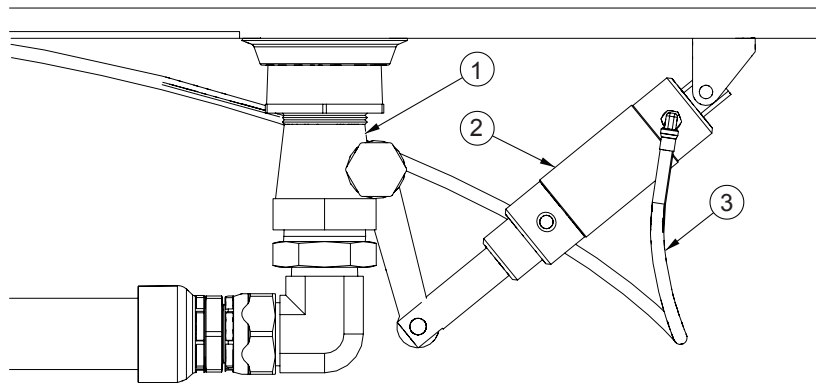

Fig. 5. Fuel Tank Underside - Emergency Valve Assembly
3. Verify that the air supply line (Fig. 5 - 3) is attached to the air cylinder (Fig. 5 - 2) on the Emergency Valve (Fig. 5 - 1) under the fuel tank.